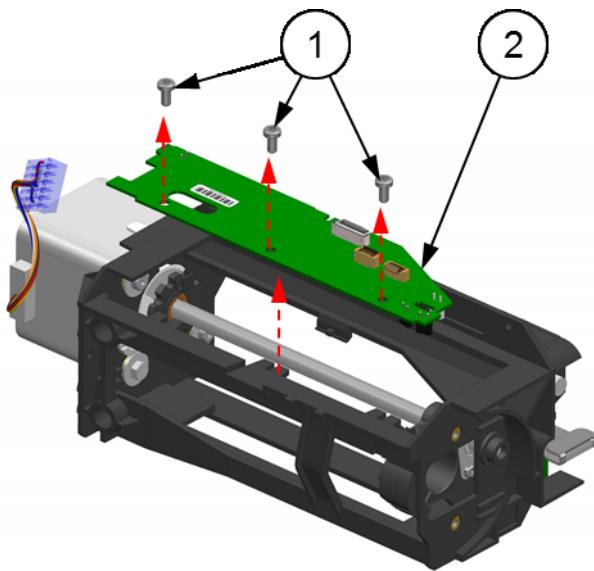

Fig. 50 Drive mechanism board removal/installation
- Using the TB-1 screwdriver unscrew three 3x6 screws for plastic (1) as shown in Fig. 50.
- Remove the Drive mechanism board (2) in the direction indicated by red arrows in Fig. 50.
1. Insert the **Drive mechanism board (2)** opposite to the direction indicated by the red arrow in Fig. 50.
2. Using the **TB-1** screwdriver screw three **3x6 screws for plastic (1)** until the screws are fully screwed and first mechanical resistance occurs (Fig. 50).